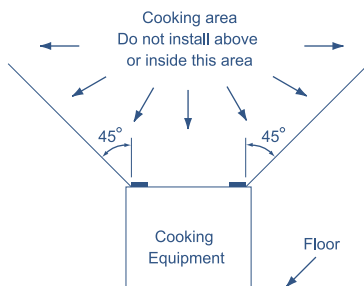

Figure 1
8. The unit is not for use in cooking areas. (See Fig. 1)
8. Not for use in the cooking area (Figure 1).